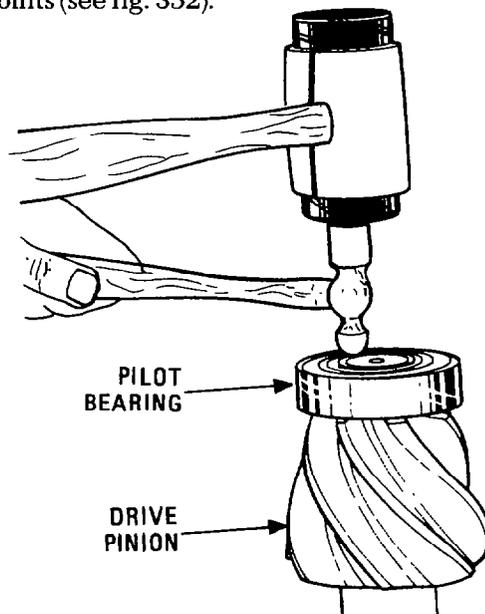

Fig. 352 — Staking Pinion Pilot Bearing
- a. Press the pilot bearing (item 31) onto the pinion shaft (item 35) then stake the bearing to the shaft at four stake points (see fig. 352).